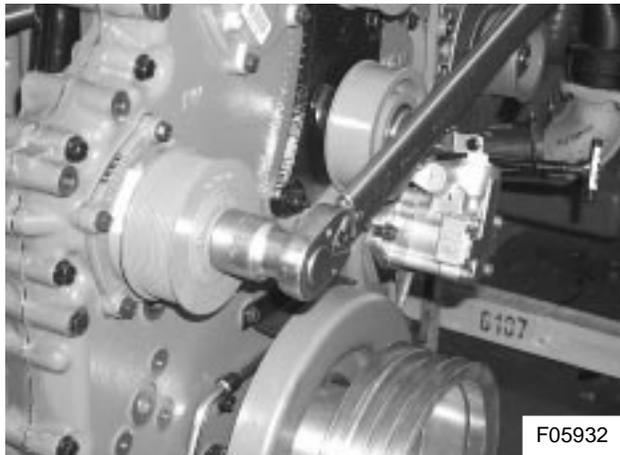

Figure 12: Torqueing pulley retaining nut
9) Tighten the pulley nut to a torque of 295 ft.lbf (400 Nm) as shown in Figure 12.